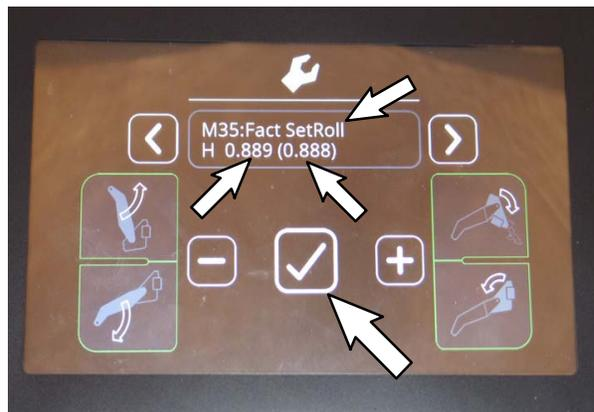

FIG. 37
- Use the left arrow button to scroll to M:35 Fact SetRoll. Press the Check Mark button once to enter M:35 and again to reset the hopper roll out to the factory setting. (Fig. 37)
- Verify the value on the left closely matches the value in the parentheses. (Fig. 37)